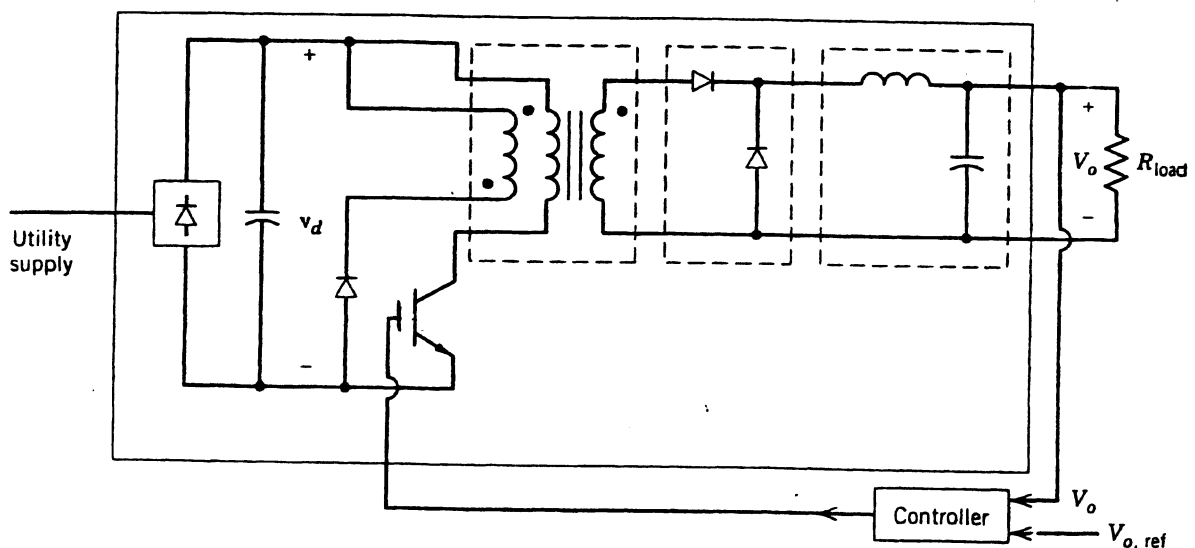

Fig. 1
1. (a) The circuit in Fig. 1 shows a typical power electronics AC-DC converter. Explain briefly the operation of the circuit and demonstrate that the output voltage is proportional to the power device duty cycle. If the rectified voltage  $V_d = 350$  V and turns-ratio of the transformer  $N_2/N_1 = 1/35$  find the output voltage for a duty cycle,  $D = 50\%$ . [30%]